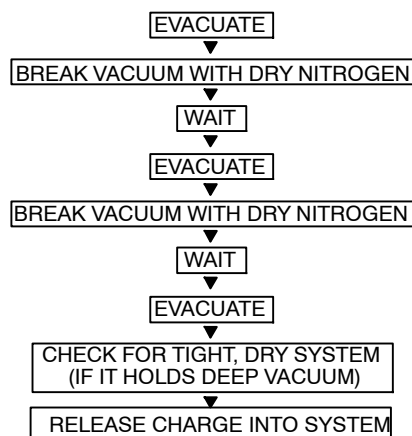

Fig. 27 – Triple Evacuation Method
The triple evacuation method should only be used when vacuum pump is only capable of pumping down to 500 microns and system does not contain any moisture. Refer to Fig. 27 and proceed as follows:
5. Repeat this procedure as indicated in Fig. 27. The system will be freed of any contaminants and water vapor.